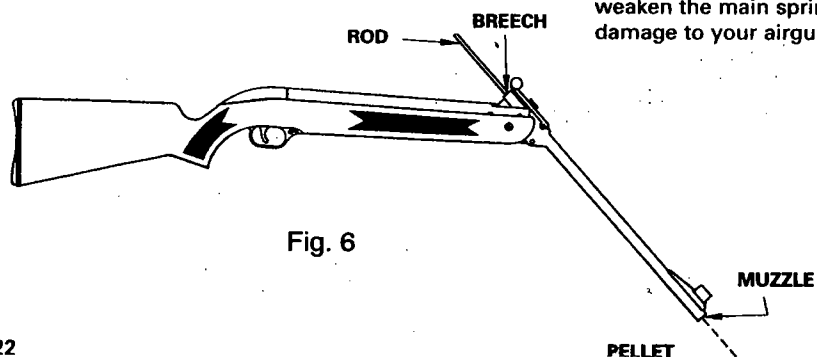

Fig. 6
- If it is jammed, insert a cleaning rod into the breech and push the jammed pellet out of the muzzle. Don't try to reuse that pellet (Fig. 6).